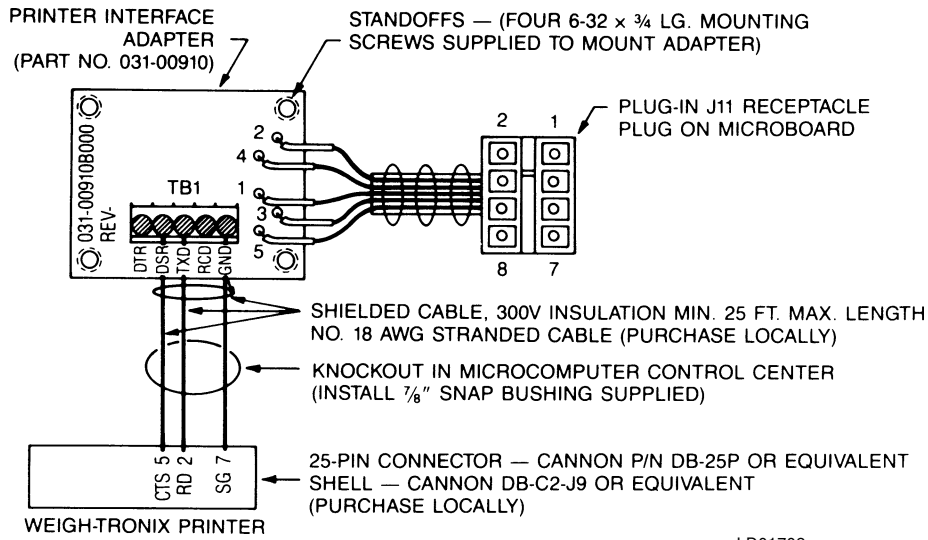

FIG. 4 – PRINTER INTERFACE ADAPTER FOR WEIGH-TRONIX PRINTER
2. Fabricate printer interface cable per Figs. 4 thru 8.
3. Connect printer interface cable to the printer interface adapter by stripping 1/4" insulation from wires and inserting under screws. Tighten screws. Connect per Figs. 4 thru 8.